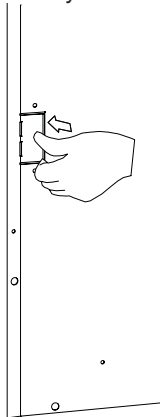

Figure 14
2. Bend the tab out of the way. See Figure 14.